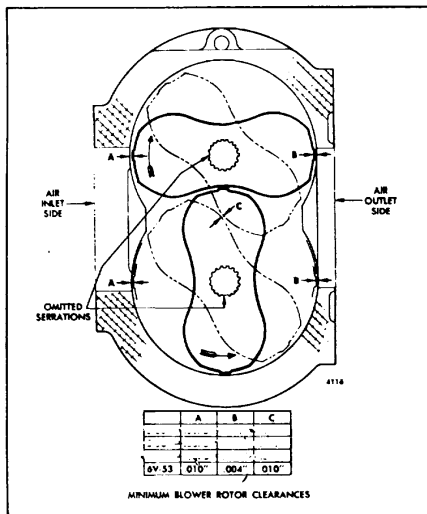

Fig. 10. - Minimum Blower Rotor Clearance
- b. Measure the clearance between the rotor lobes, across the length of the lobes, in a similar manner. By rotating the gears, position the lobes so that they are at their closest relative position (Fig. 10.) The clearance between the lobes should be a minimum of .010 "